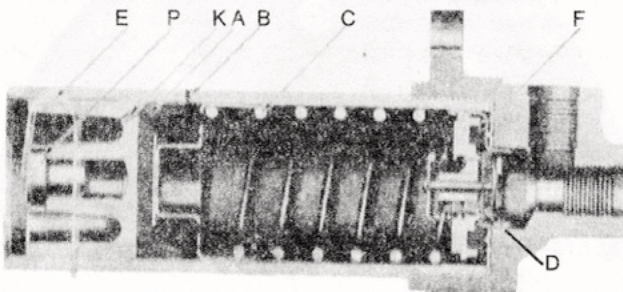

Fig. L12 - Details of compensating type of master cylinder.
Fig. L12 shows the details of the master cylinder. The valve assembly indicated by (F) and (D) in the bottom of the cylinder plays absolutely no part in the braking operations and even if it was absent this fact would not be known unless bleeding was attempted. It is included to make the bleeding operation simple and quick. The return spring (C) presses the cup (A) against the piston. The cup is not fastened to the piston and is self-centering.
In the master cylinder barrel, at (B) Fig. L12, a small port, the diameter of a No. 70 drill hole is just uncovered, by the cup when in its full 'off' position. If an increase in temperature takes place the expansion of the fluid in the lines dissipates itself by lifting the valve F from its seat, passing fluid into the master cylinder and out through the port (B) into the tank. Since the retractor springs on the shoes have a weight of from 45 to 75 pounds (depending upon the type), and the master cylinder spring (C) a weight of only 7 pounds, the valve (F) permits the fluid to come in without changing the position of the brake shoes. It will be readily seen that this action would take place whether the valve (F) were there or not.